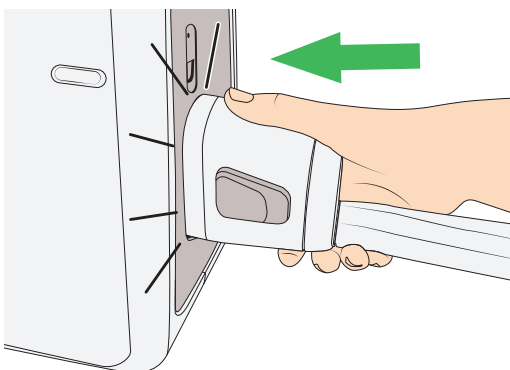

Figure 36
3. Connect the tube-set to the Auralis pump. Make sure the tube-set clicks into place. See Figure 36